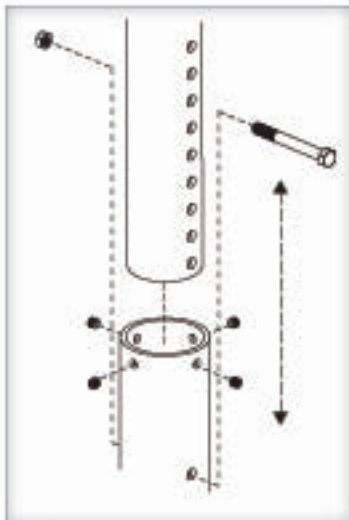

Figure 27-2
- Tighten set screws/ (x4) [Figure 27-2]